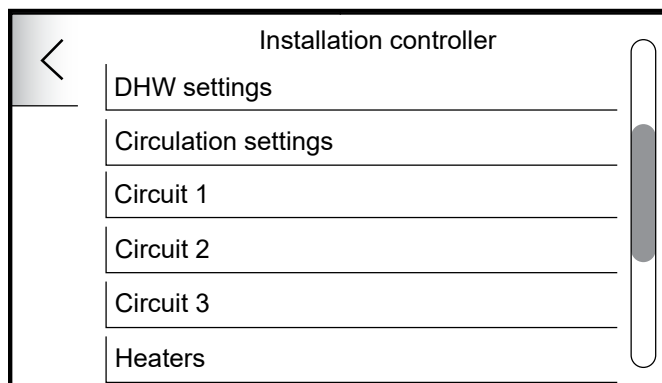

Figure 7-11: Installation controller menu
3. Swiping the Touchscreen display scroll down to the desired circuit and select by tapping. (Refer to Figure 7-11).